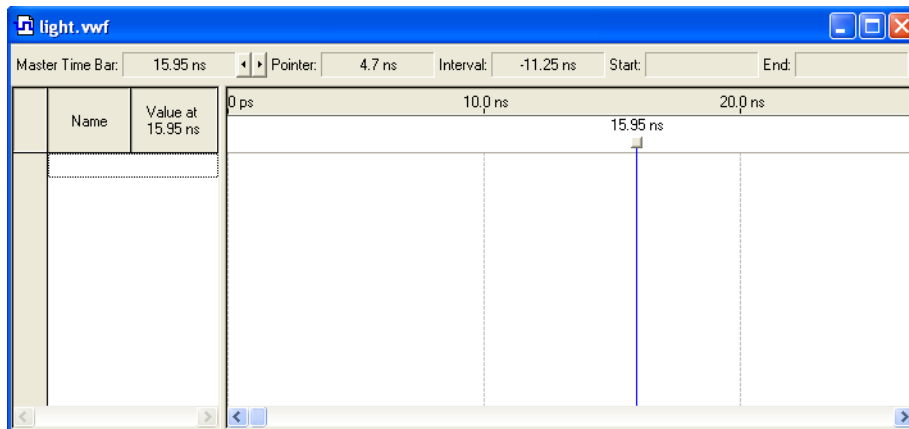
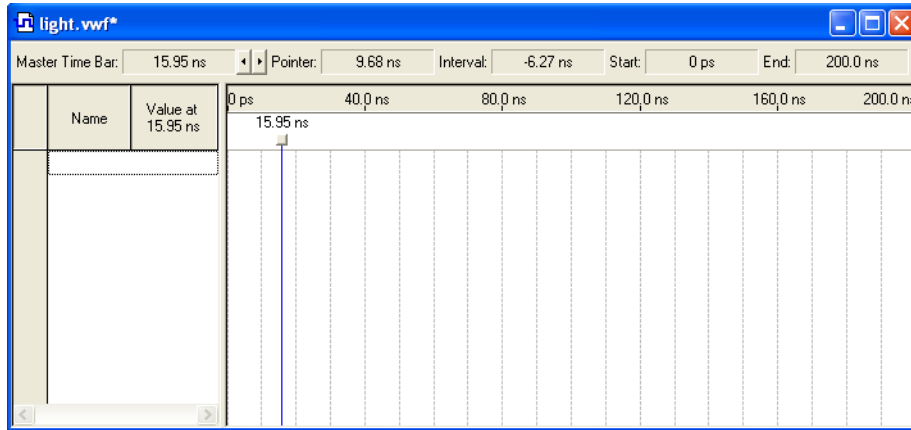

Figure 29. The Waveform Editor window.
Figure 30. The augmented Waveform Editor window.
2. The Waveform Editor window is depicted in Figure 29. Save the file under the name *light.vwf*; note that this changes the name in the displayed window. Set the desired simulation to run from 0 to 200 ns by selecting **Edit > End Time** and entering 200 ns in the dialog box that pops up. Selecting **View > Fit in Window** displays the entire simulation range of 0 to 200 ns in the window, as shown in Figure 30. You may wish to resize the window to its maximum size.